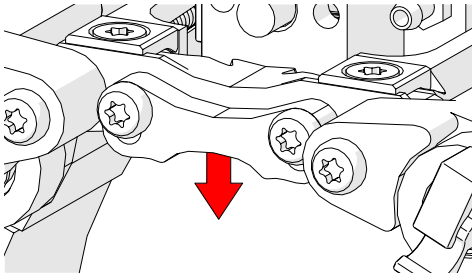

Fig. 35 - Lower setup tab
5. Lower the setup tab on both sides of the scanner (Fig. 35).